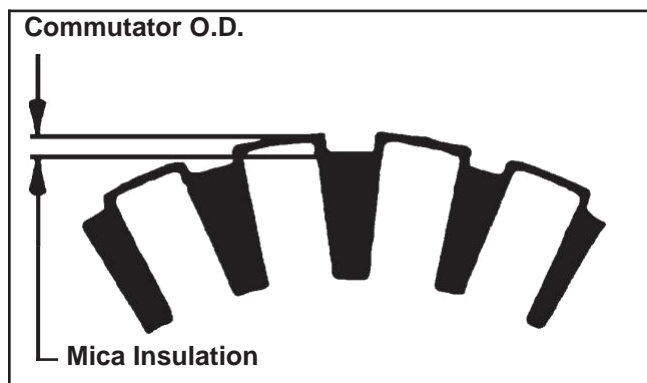

Figure 8-50. Commutator Mica Inspection.
1. Clean and inspect the commutator (outer surface). The mica insulation of the commutator must be lower than the O.D surface (undercut) to ensure proper operation of the commutator. See Figure 8-50.